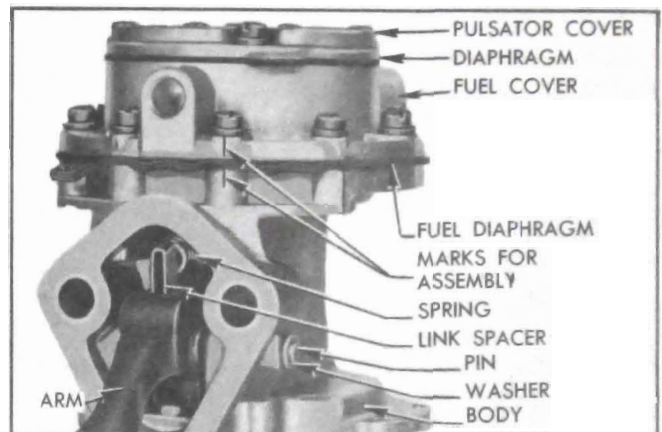

Figure 3-13—Fuel Section of Pump
1. Mark edges of fuel cover and pump body with file so that cover may be reinstalled in its original position on body. See figure 3-13.
1. File riveted end of rocker arm pin flush with steel washer (fig. 3-13), or cut off end with a ⅜" drill, then drive out pin with a drift punch and hammer.
3. Stand the pump body on the bench, fuel flange down. Set rocker arm spring in body with one end over cone cast into body. Slide rocker arm and link assembly into body with link spacer engaged with rocker arm spring. Hold parts in body and drive a *new* rocker arm pin through body and bushing. See figure 3-13.